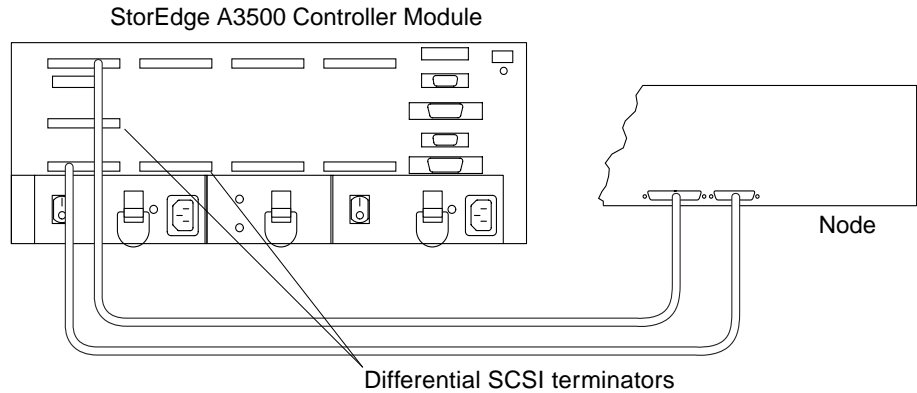

FIGURE A-3 Sample StorEdge A3500 Cabling
- If you are adding a StorEdge A3500 system, connect the differential SCSI cable between the node and the controller module as shown in FIGURE A-3. Make sure that the *entire* SCSI bus length to each enclosure is less than 25 m. This measurement includes the cables to both nodes, as well as the bus length internal to each enclosure, node, and host adapter.
- If you are adding a StorEdge A3500 controller module, connect the differential SCSI cable between the node and the controller module as shown in FIGURE A-3. Make sure that the *entire* SCSI bus length to each enclosure is less than 25 m. This measurement includes the cables to both nodes, as well as the bus length internal to each enclosure, node, and host adapter.